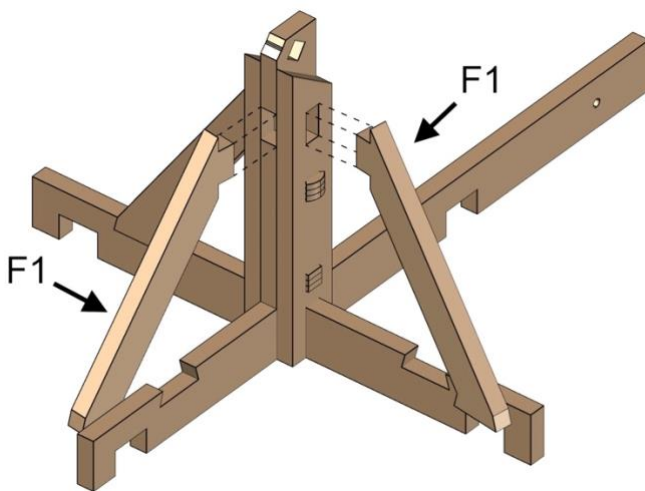

Fig. 43
- Align parts exactly as shown in *Fig. 43*.